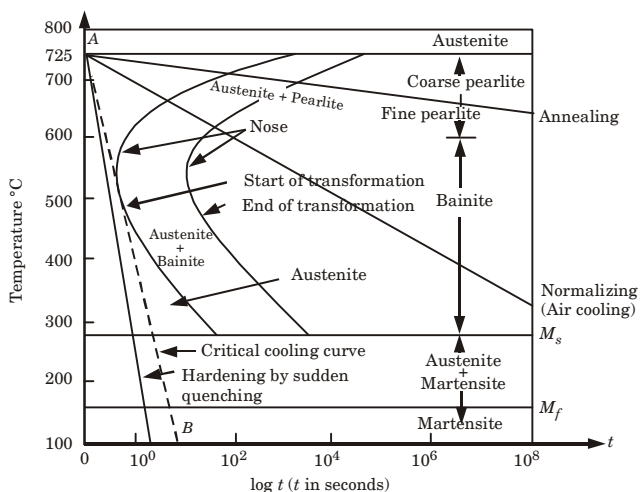

Fig. 4.9.2. The TTT curve showing temperature and log (time) variation for an eutectoid steel, and its different phases.
12. A complete feature of TTT diagram to show its different phase is shown in (Fig. 4.9.2).